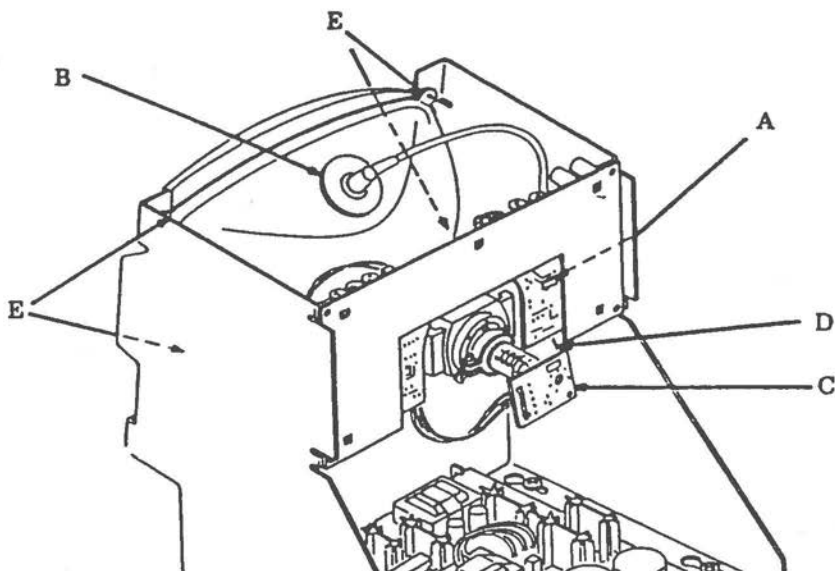

Figure 6-13 Monochrome CRT Removal
2. Disconnect the connector (A) from the deflection board, see Figure 6-13.